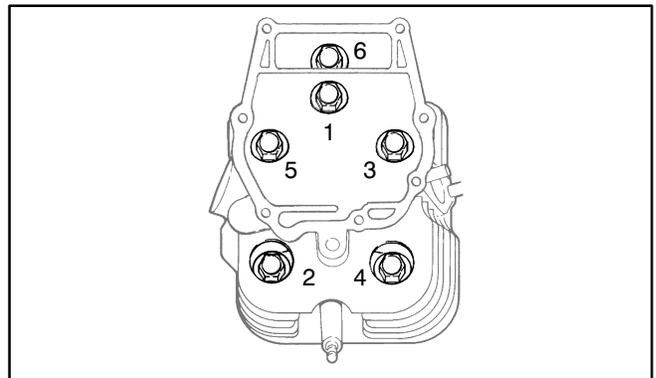

FIGURE 9-5. HEAD TIGHTENING SEQUENCE
6. Place the head in position and follow the head torque tightening sequence shown in Figure 9-5. Start out tightening all bolts to 11 lb-ft (15 N-m), then tighten to the specified torque (see *Torque Specifications*, Section 4).